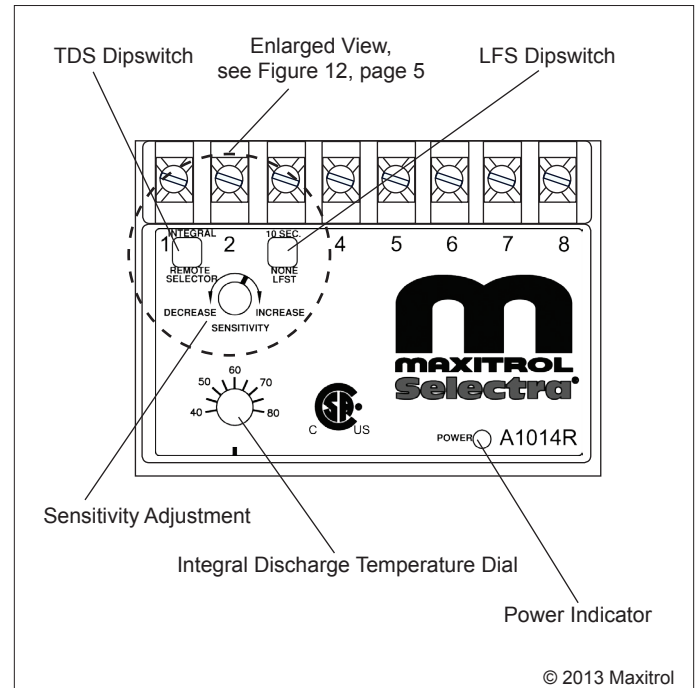

Figure 11: A1014R Model Amplifier
If hunting (oscillation) is encountered, rotating the sensitivity adjustment counter-clockwise will dampen the oscillation - stabilizing the flame (see Figure 11).
1. Disconnect wires from amplifier terminal 4 (see Figure 11, page 4). This causes the valve to call for continuous high fire.
2. Remove seal cap (A), and turn regulator pressure adjusting screw to obtain desired manifold pressure. (Clockwise rotation increases pressure.)
1. Disconnect wire from amplifier terminal 8 (see Figure 11, page 4). This causes the valve to call for continuous low fire.
2. Remove cap (B), and loosen lock screw (C). Turn (D) to desired low fire adjustment. (Clockwise rotation reduces minimum flow rate.)
3. Tighten set screw (C), replace cap (B) and reconnect wire to amplifier terminal 8.